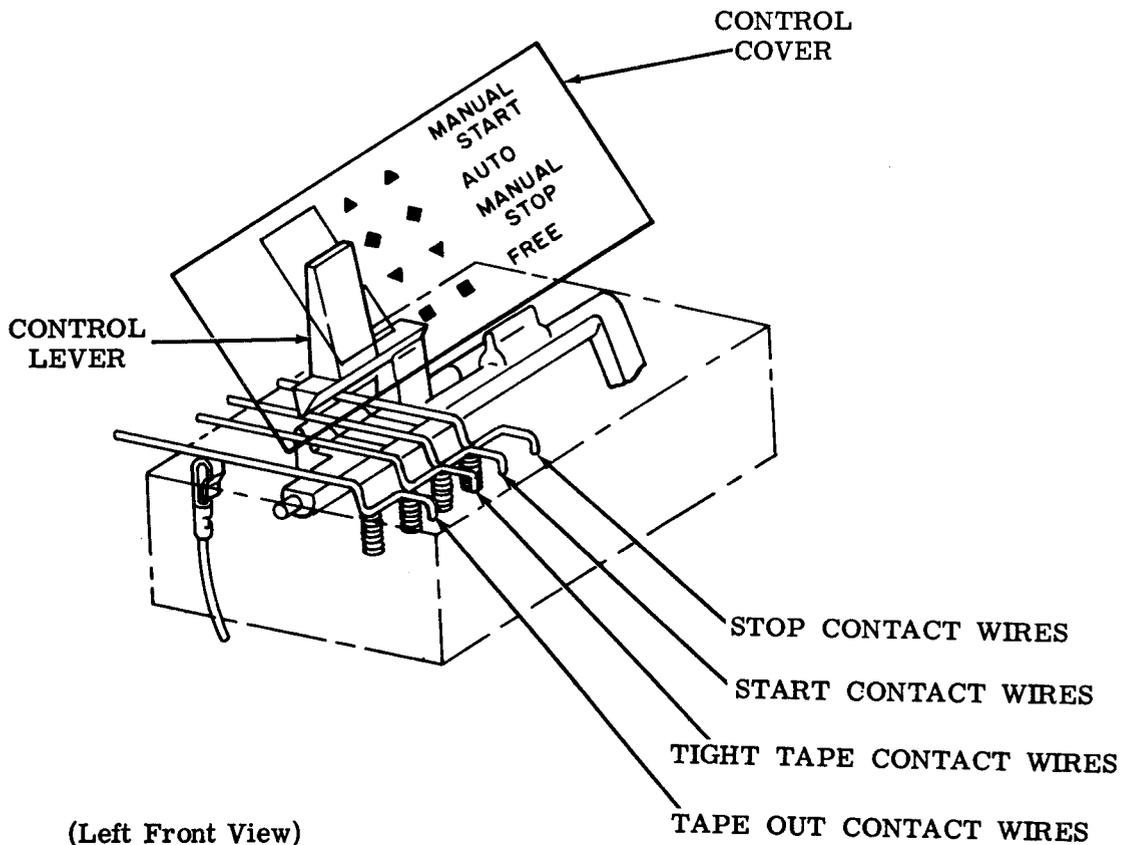
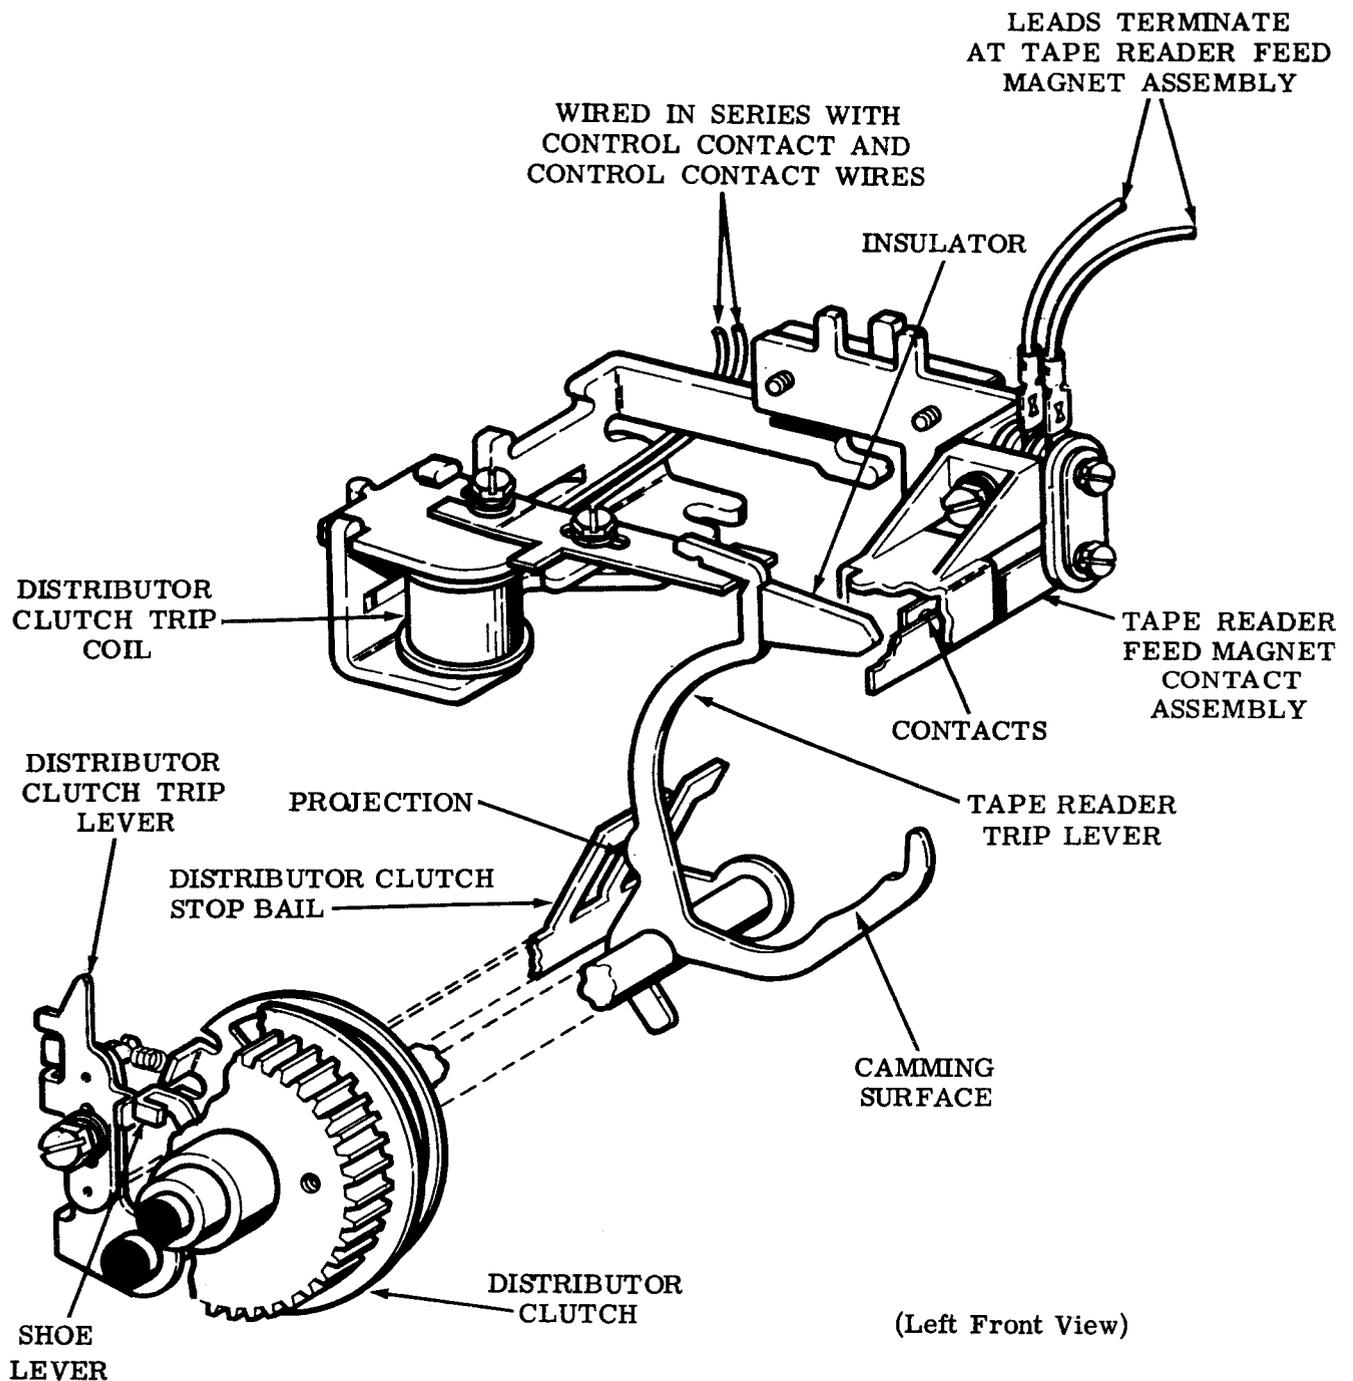
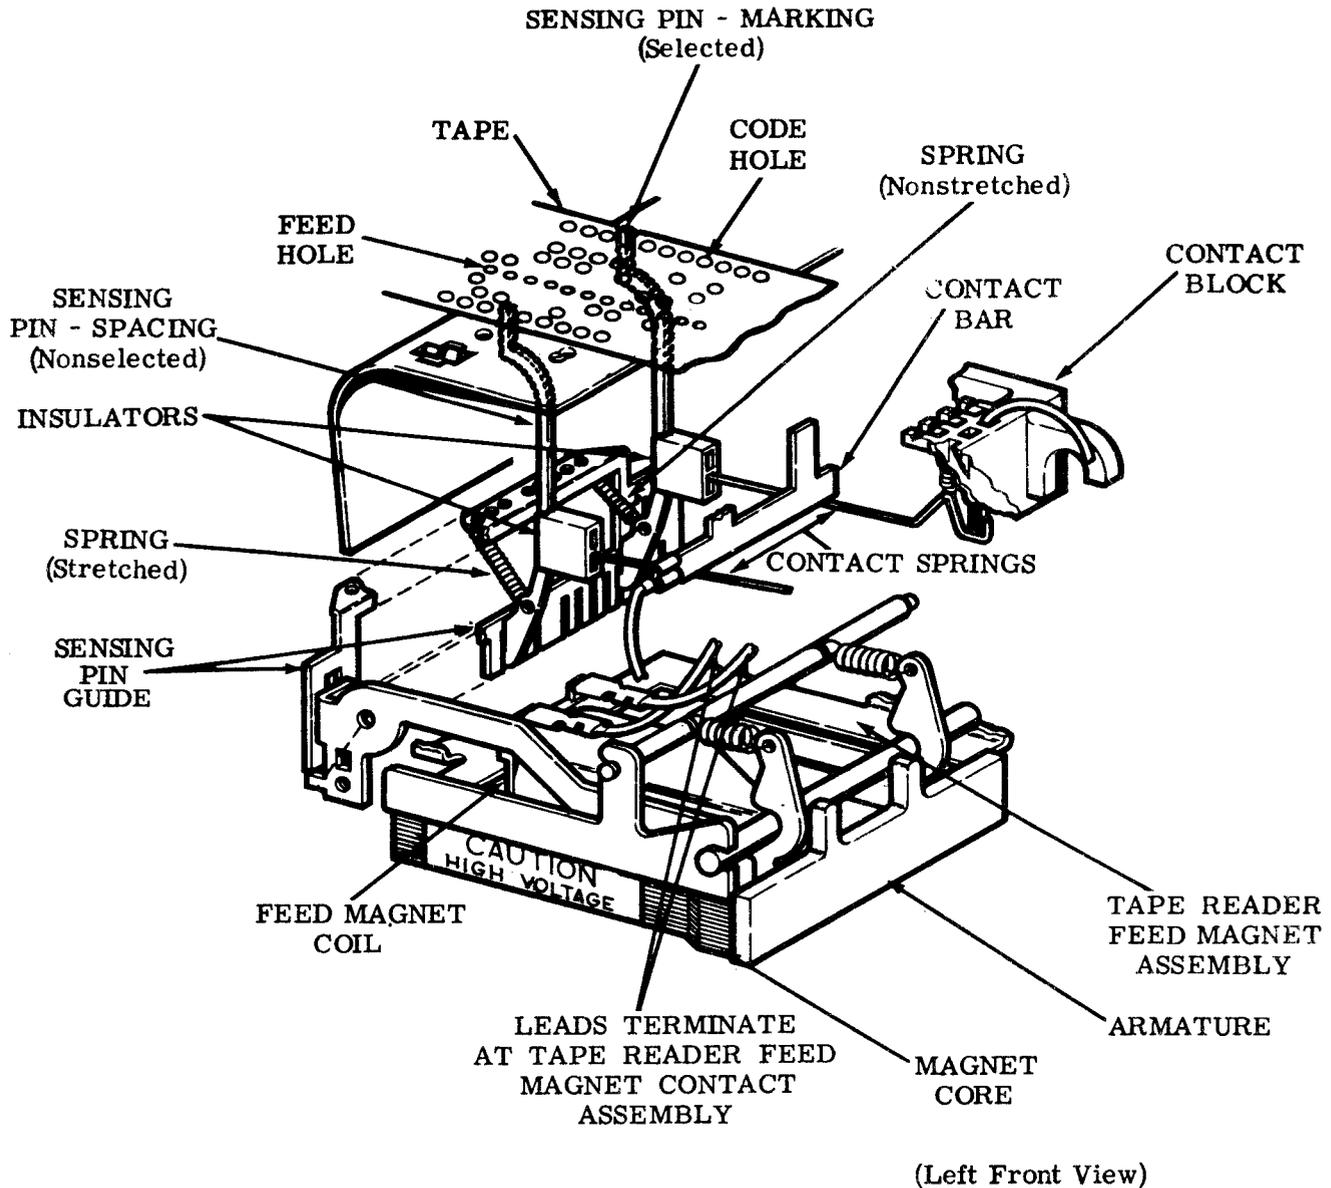

Figure 4 - Control Mechanism
Figure 5 - Distributor Trip Mechanism
Figure 6 - Feed Magnet and Sensing Mechanism
3.07 In the manual reader there are three positions for the control lever: START, STOP, and FREE. In the automatic reader there are four positions for the control lever: MANUAL START, AUTO, MANUAL STOP, and FREE. When the control lever is moved to the START position (MANUAL START position for the automatic reader — Figure 4) the spring biased start contact wires are positioned on the start contact. Since the start contact wires and the start contact are wired in series with the distributor clutch trip coil in the typing unit, the coil energizes and releases the tape reader trip lever (Figure 5).
3.08 When released the tape reader trip lever performs two functions; it closes the tape reader feed magnet contact assembly and trips the distributor clutch (Figure 5). The reader feed magnet assembly is closed by an insulator
3.09 With the feed magnet contacts closed (Figure 5) the feed magnet in the reader mechanism is activated. The energized feed magnet coil attracts the armature (Figure 6). Rotating about its pivot the armature raises the armature extensions. Fastened to the ends of the armature extensions is a sensing pin guide.
3.10 In its upward travel the sensing pin guide carries with it eight spring-biased pins which sense the tape. Where a hole exists in the tape (marking) the sensing pin continues its upward travel and its associated spring remains unstretched. Where no hole exists in the tape (spacing) the sensing pin travel is blocked and its associated spring becomes stretched (Figure 6).